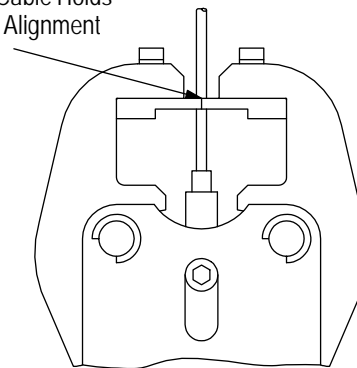

Figure 7
### 5. TOOL SETUP (Figure 7)
2. Loosen the locator locking screw, insert the locator into the tool head cavity, making sure that the locator is bottomed in the cavity, then re-tighten the locking screw. Refer to Figure 7, Detail A.
3. Select the proper die set for either RG-402 or RG-405 cable. Position each die on the respective tool jaw and make sure that the chamfer is oriented as shown in Figure 7, Detail A.
5. To align the dies, place the cable inside the locator and squeeze the tool handles to close the tool. Check for even alignment of the dies, as shown in Figure 7, Detail B, then tighten the screws to secure the dies.